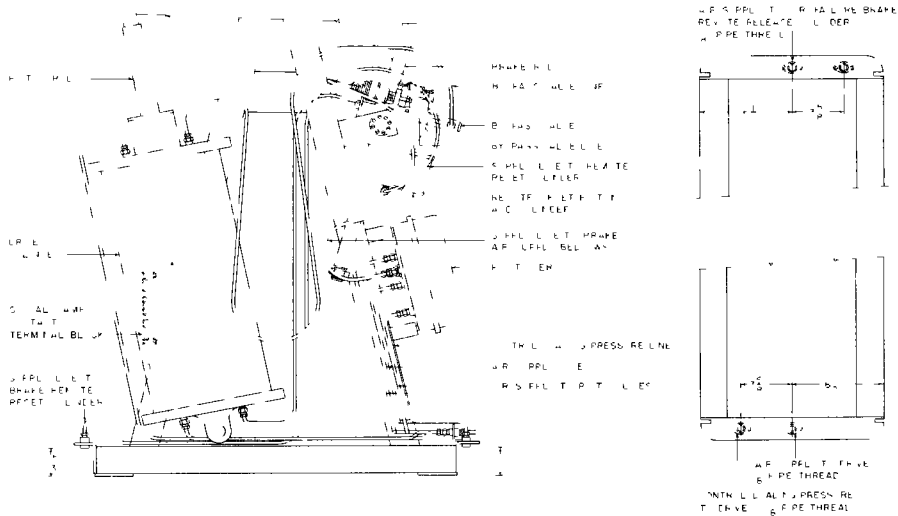
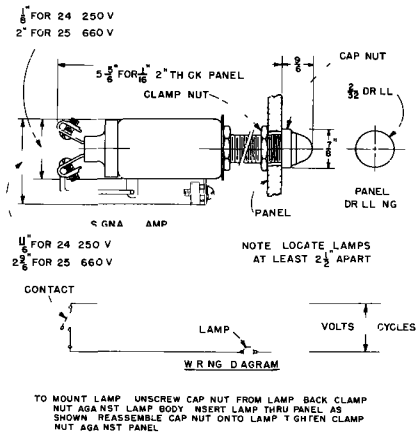

FIGURE 3 - Tubing Connections for Air Failure Brake
FIGURE 5 Mounting Dimensions,
5. If Drive is equipped with an Air Failure Brake with a remote release pushbutton (Figure 4), run a line from an air supply header thru the pushbutton to the connection shown in Figure 3. Use 1/4-inch copper or aluminum tubing and suitable fittings. Mount the remote release pushbutton on a panel near the operator
10 For Control Drives equipped with a Air Failure Brake (Figure 3), no additional installation is required unless a remote release pushbutton or remote signal lamp is used.
11 If Drive is equipped with an Air Failure Brake with a remote signal lamp, make wiring connections as shown in Figure 5 to the terminals designated in Figure 3. Use No. 14 or larger building wire for protection against damage. Run the wiring in conduit with at least the last two or three feet at the Drive end in flexible conduit so that the wire may be disconnected easily. Mount remote signal lamp on a panel near the operator.